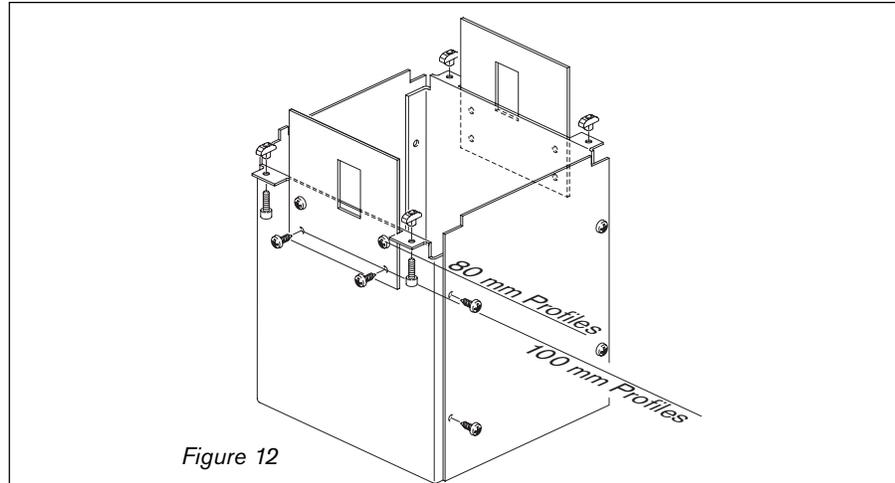

Figure 12
- 1 Using the sheet metal screws included with the guarding, pre-assemble the six individual sheet metal guards as shown in Fig. 12.